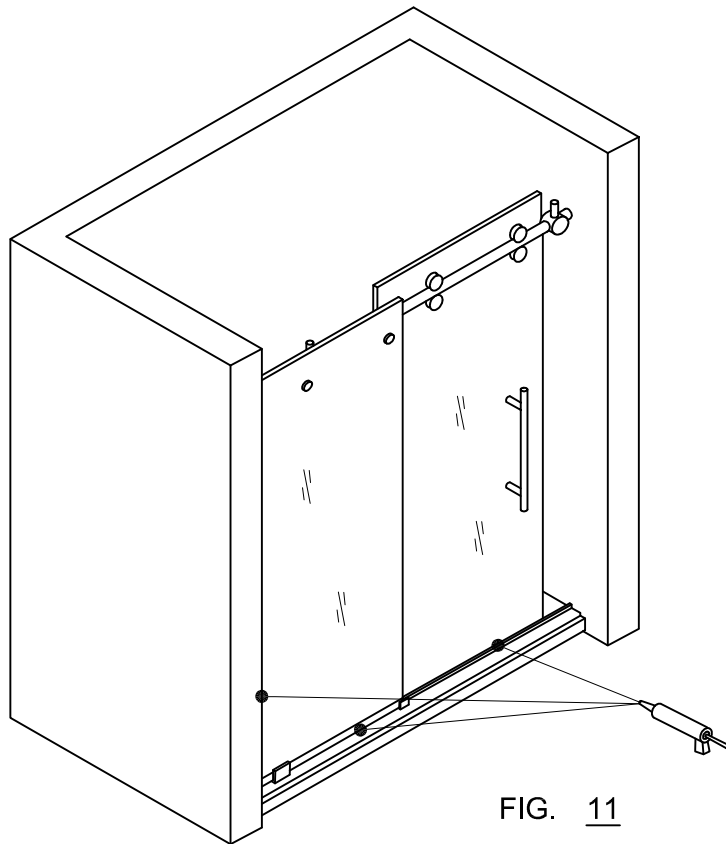

FIG. 11
1. Apply clear silicone caulking along the wall and floor of the shower enclosure interior. [SEE FIG.11]